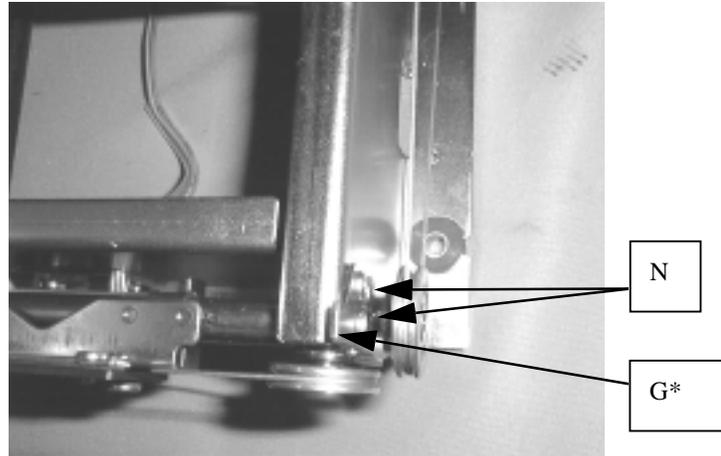

FIGURE 14-3
- Loosen setscrews (N) , and tilt down the right and left stoppers (G\*). Fig.14-3.